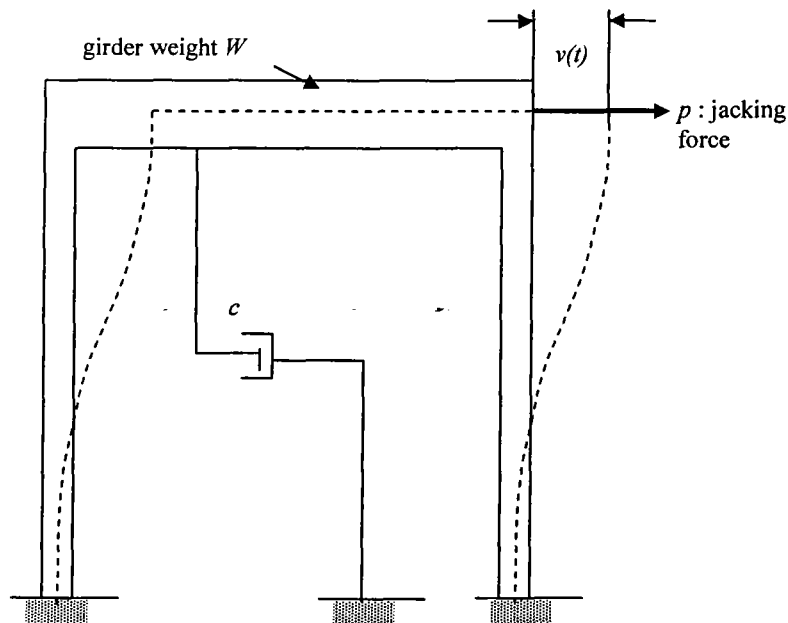

Figure 6 / Rajah 6
- (b) A free vibration test has been carried out on the frame as shown in Figure 6. When a lateral jacking force of 85kN is applied onto the girder, a lateral displacement of 7.5mm was recorded. Subsequently, as the girder is instantaneously released from this initial position, it is observed that the time recorded for the frame to swing back is 1.20s. The maximum displacement on the return swing is 4.5mm. Using this data, compute the followings: